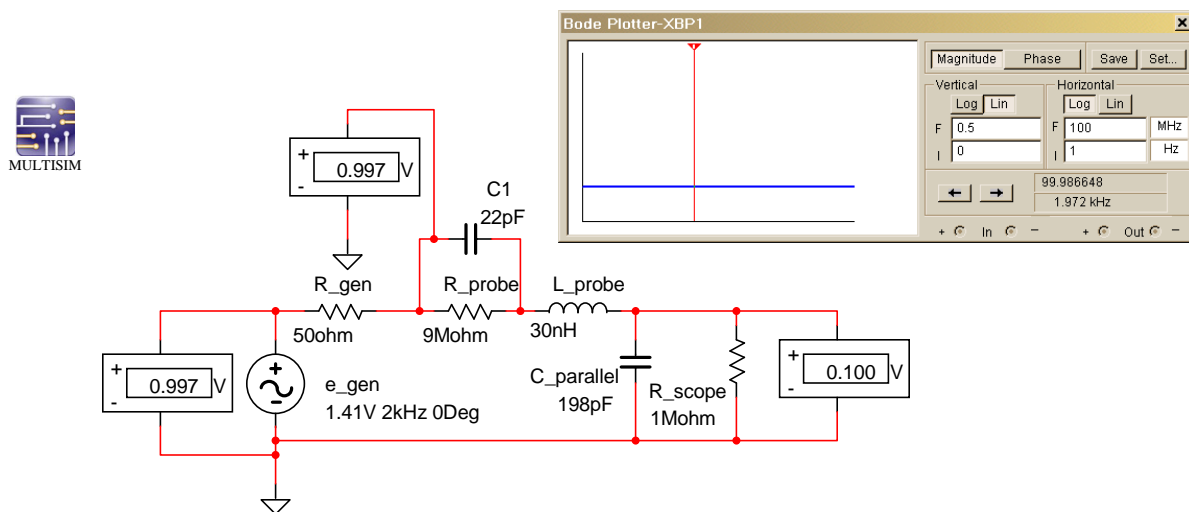

Figure 2-15 Simulation results for Example 2-3
- c. The simulation is given in Figure 2-15, and confirms the manual calculations.